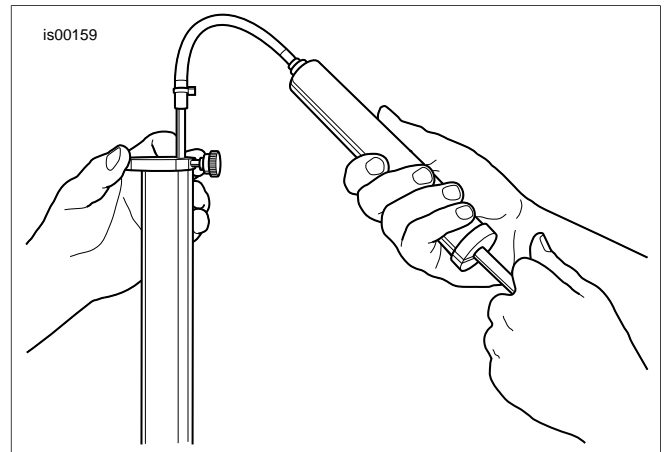

Figure 7. Remove Excess Fork Oil
- d. See Figure 7. Insert rod into top of fork tube until metal ring rests flat on top of fork tube, and the slider tube is pushed all the way into the slider.
15. Install main spring (1) into the slider tube (E) with the dense coil end down.
16. Install slider tube cap (A) and o-ring (B) on top of slider tube. Tighten cap to 22-58 ft-lbs (29.9-78.7 Nm).